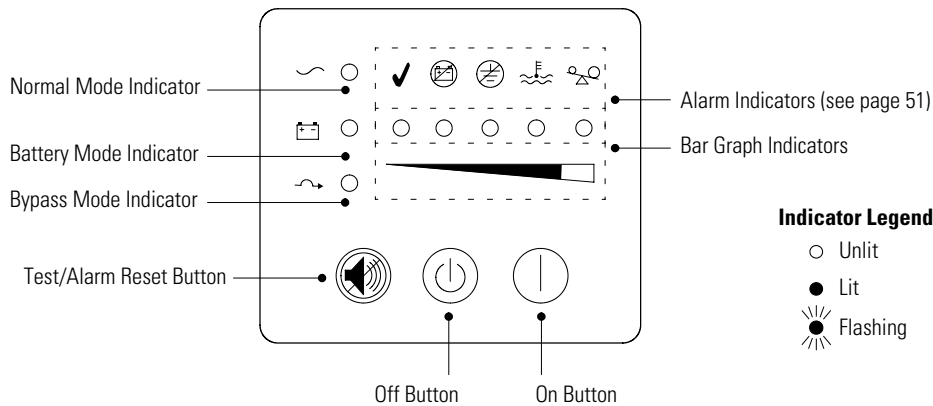

Figure 14. UPS Front Panel
13. Press the On | button (see Figure 14 on page 31).
To turn on the UPS, press the On | button on the front panel (shown in Figure 14 on page 31). The  indicator illuminates solid and the bar graph indicators display the percentage of load being applied to the UPS.
Powerware 9125's front panel indicates the UPS status through the UPS indicators. Figure 14 shows the UPS front panel indicators and controls.